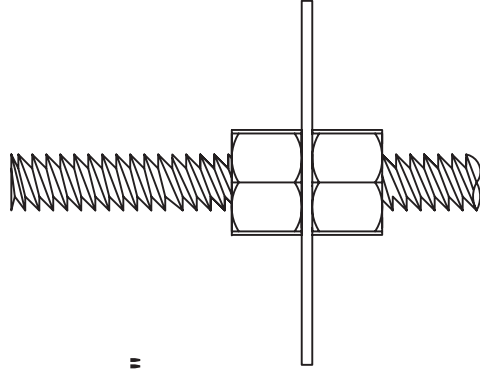

FIGURE 2
STEP 2: ADD ONE (1) FENDER WASHER AND THEN THE SECOND NUT, AS DEPICTED IN FIGURE 2.